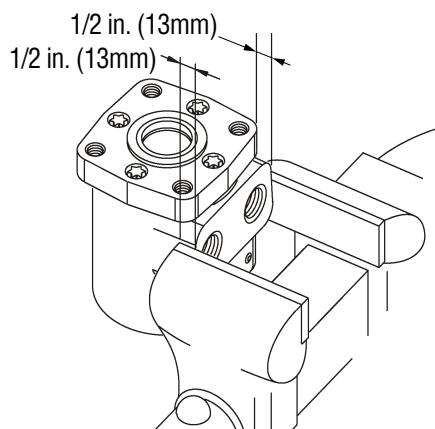

Figure 5-41, Motor Port Clamping
2. Place the motor in a vise and clamp across the edge of the flange with output shaft up. Figure 5-41). Do not clamp on the side of the housing.